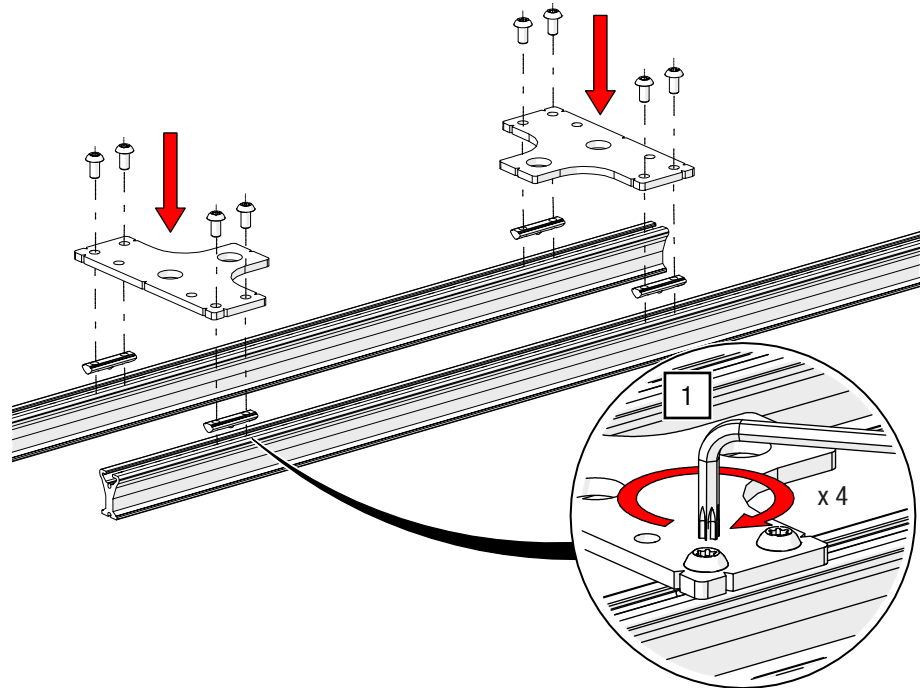

Fig. 48: Double track suspension bracket (double track) – Mount transversely to the track (overlap)
1. Place one slot nut in each of the two track sections and fasten the plate transversely as a connection plate using a TORX®-key T25 and 6 Nm (see Fig. 48).